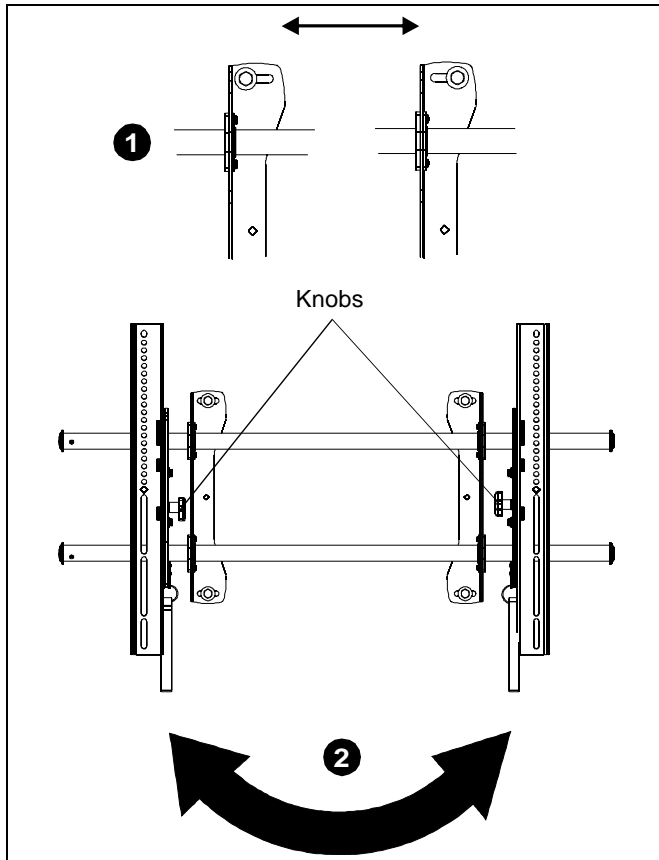

Figure 5
1. The wall brackets may be adjusted side to side at the point of attachment. (See Figure 5)
2. The location of the left and right uprights may be switched, with the knobs on the CH-SLTAU uprights facing the inside of the mount. (See Figure 5)